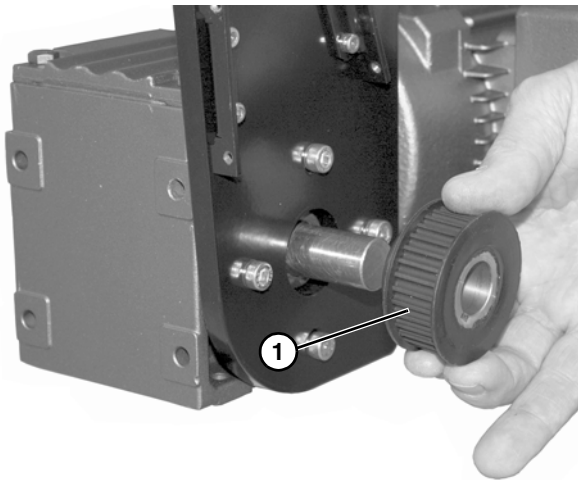

Figure 26
4. Loosen set screws and remove drive pulley (**Figure 26, item 1**).